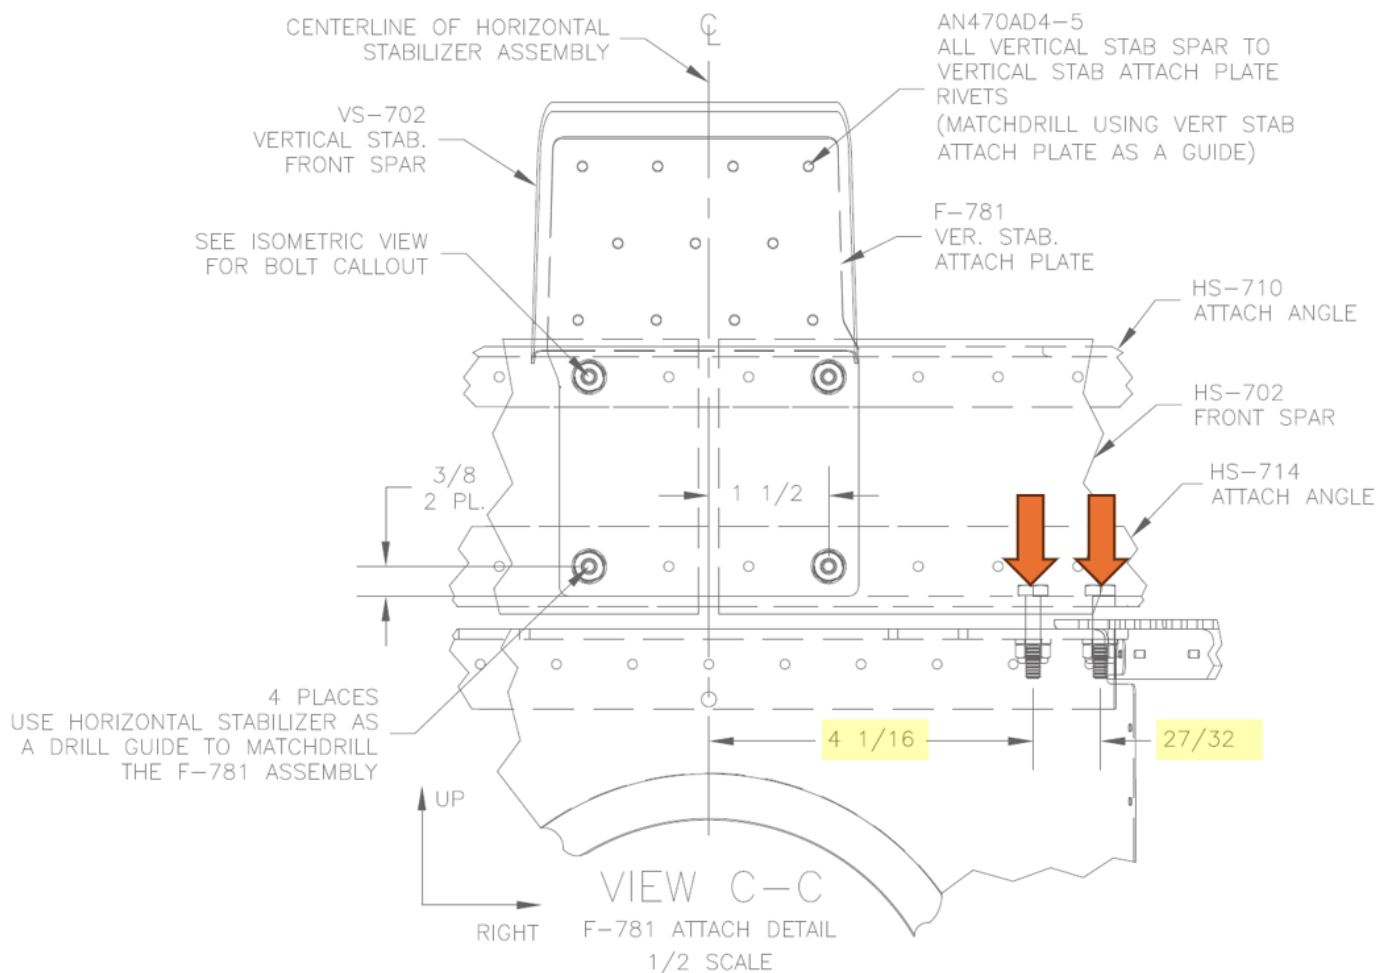

FIGURE 2: RV-7 DEG 27A TYPICAL HORIZONTAL STABILIZER ATTACH FRONT VIEW
The plans pages for the horizontal stabilizer attach specify the position of the horizontal stabilizer forward spar attach bolts. See Figure 2 and Figure 3. Some aircraft have been constructed with these bolt holes significantly displaced from the given location. This has resulted in inquiries which have been dealt with on a case-by-case basis. This service document establishes the acceptable limits for the bolt locations. Contact Van's Aircraft for further guidance if an aircraft does not meet the criteria established in this document.
Step 2: Measure the distance between the attach bolts on one side of the aircraft (see the set of bolts marked with arrows in Figure 2 with a distance of 27/32 inches between them). At minimum the distance between the bolts should be 25/32 inches. If the distance is less than 25/32 inches contact Van's Aircraft for further assistance.
Step 3: Measure the edge distance between the center of each bolt hole and the forward edge of the HS-714 Attach Angle. Repeat the measurement for the forward edge of the F-710B Angle. See Figure 2 and Figure 3. In no case may the edge distance be less than $e/D = 1.5$ (e/D the distance from the center of a hole to the edge of the part divided by the diameter of the hole $.1875 \times 1.5 = .281$). If the e/D is less than 1.5 contact Van's Aircraft for further assistance.
For example, Figure 2 the center of the bolt pattern would be 4 1/16 inches plus half the distance between the bolts or half of 27/32 inches which results in a bolt pattern center distance to the centerline of 4.484 inches.